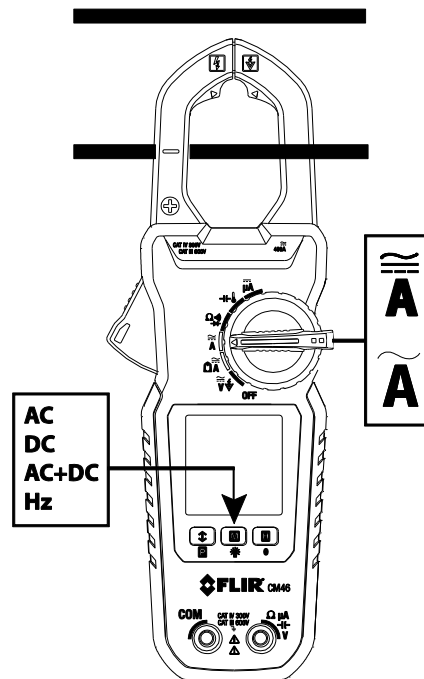

Figure 5-3 Correct and incorrect clamping
2. Set the function switch to the $\tilde{A}$ (AC), $\overline{\overline{A}}$ (AC, DC, or AC+DC). DC and AC+DC measurements are available on the CM46 only. For low current measurements please refer to Section 5.8.
5. Press the trigger to open the clamp jaws and fully enclose one pole of a circuit—refer to Fig. 5-3. For optimum results, center the conductor in the jaws.